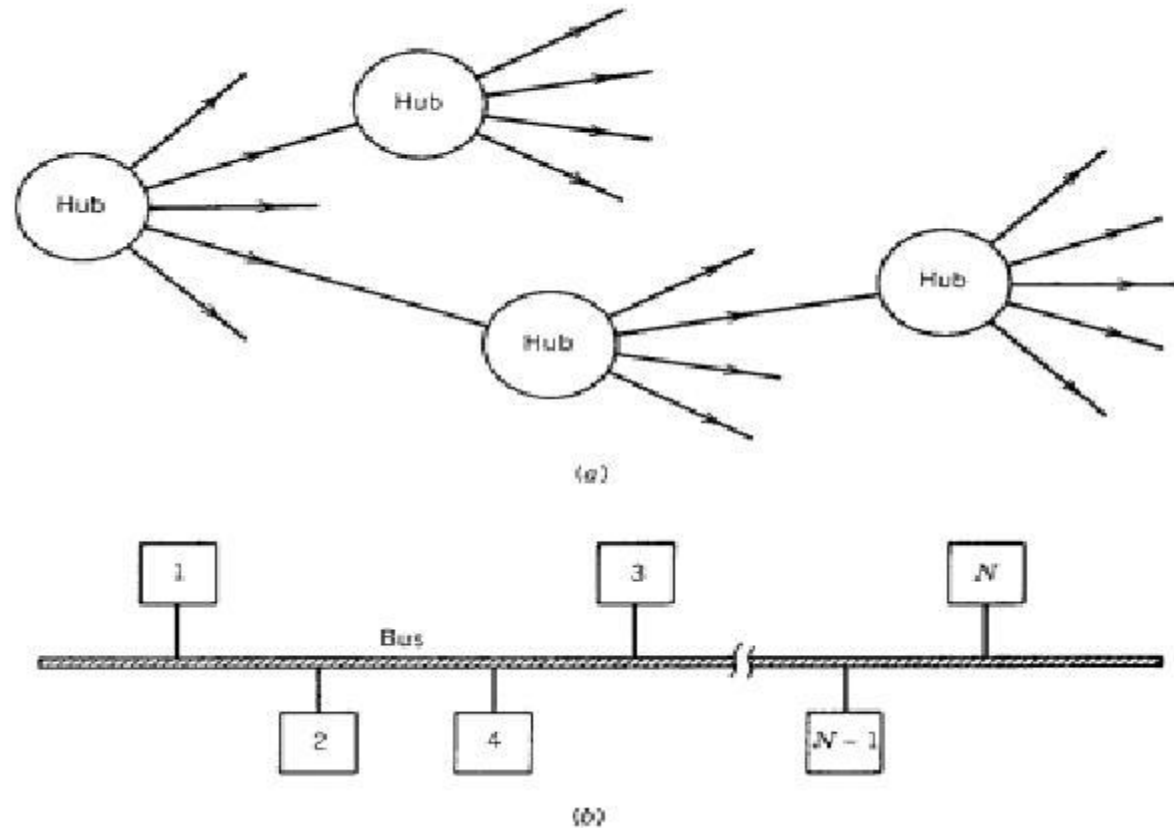

Figure 3.1: (a) Hub topology and (b) bus topology for distribution networks
- Figure 3.1 shows two topologies for distribution networks
- The bus topology is similar to that shown in Fig. 3.1(b)